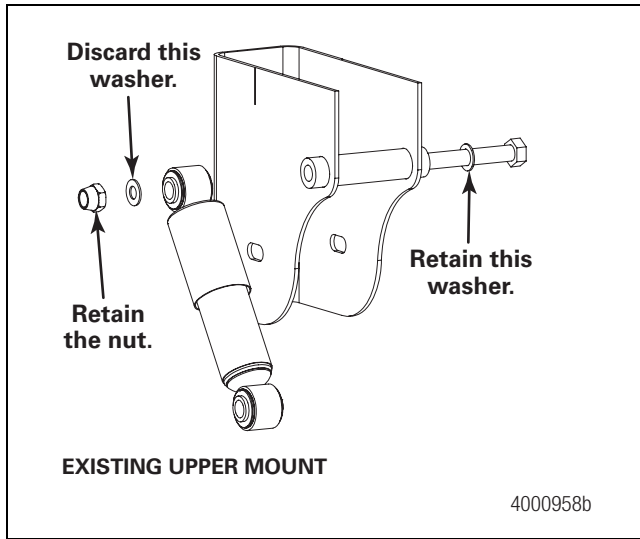

Figure 9.27
3. Remove the 7/8-inch (22.23 mm) nut and 7/8-inch x 1-3/4-inch O.D. (22.23 x 44.45 mm) washer from the UPPER shock absorber mounting. Discard the washer. Do not remove the existing washer on the shock absorber bolt. Figure 9.27.
3. Remove the 7/8-inch (22.23 mm) nut and 7/8-inch x 1-3/4-inch O.D. (22.23 x 44.45 mm) washer from the UPPER shock absorber mounting. Discard the washer. Figure 9.27.